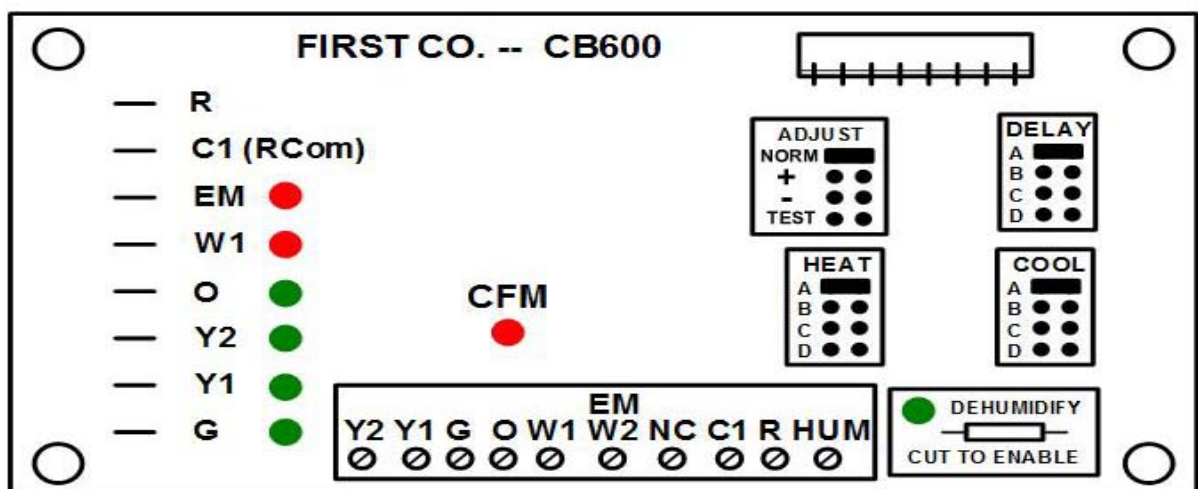

FIGURE 5. - SELECT CONTROL BOARD
- The delay profile is factory set on setting (A).
- HEATING SELECT TAP** Select system airflow for cooling / heat output. (See Figure 5).
- ADJUST SELECT TAP** Select system CFM airflow requirement. (See Figure 5).
- DELAY SELECT TAP** Select desired delay profiles. (See Figure 5).